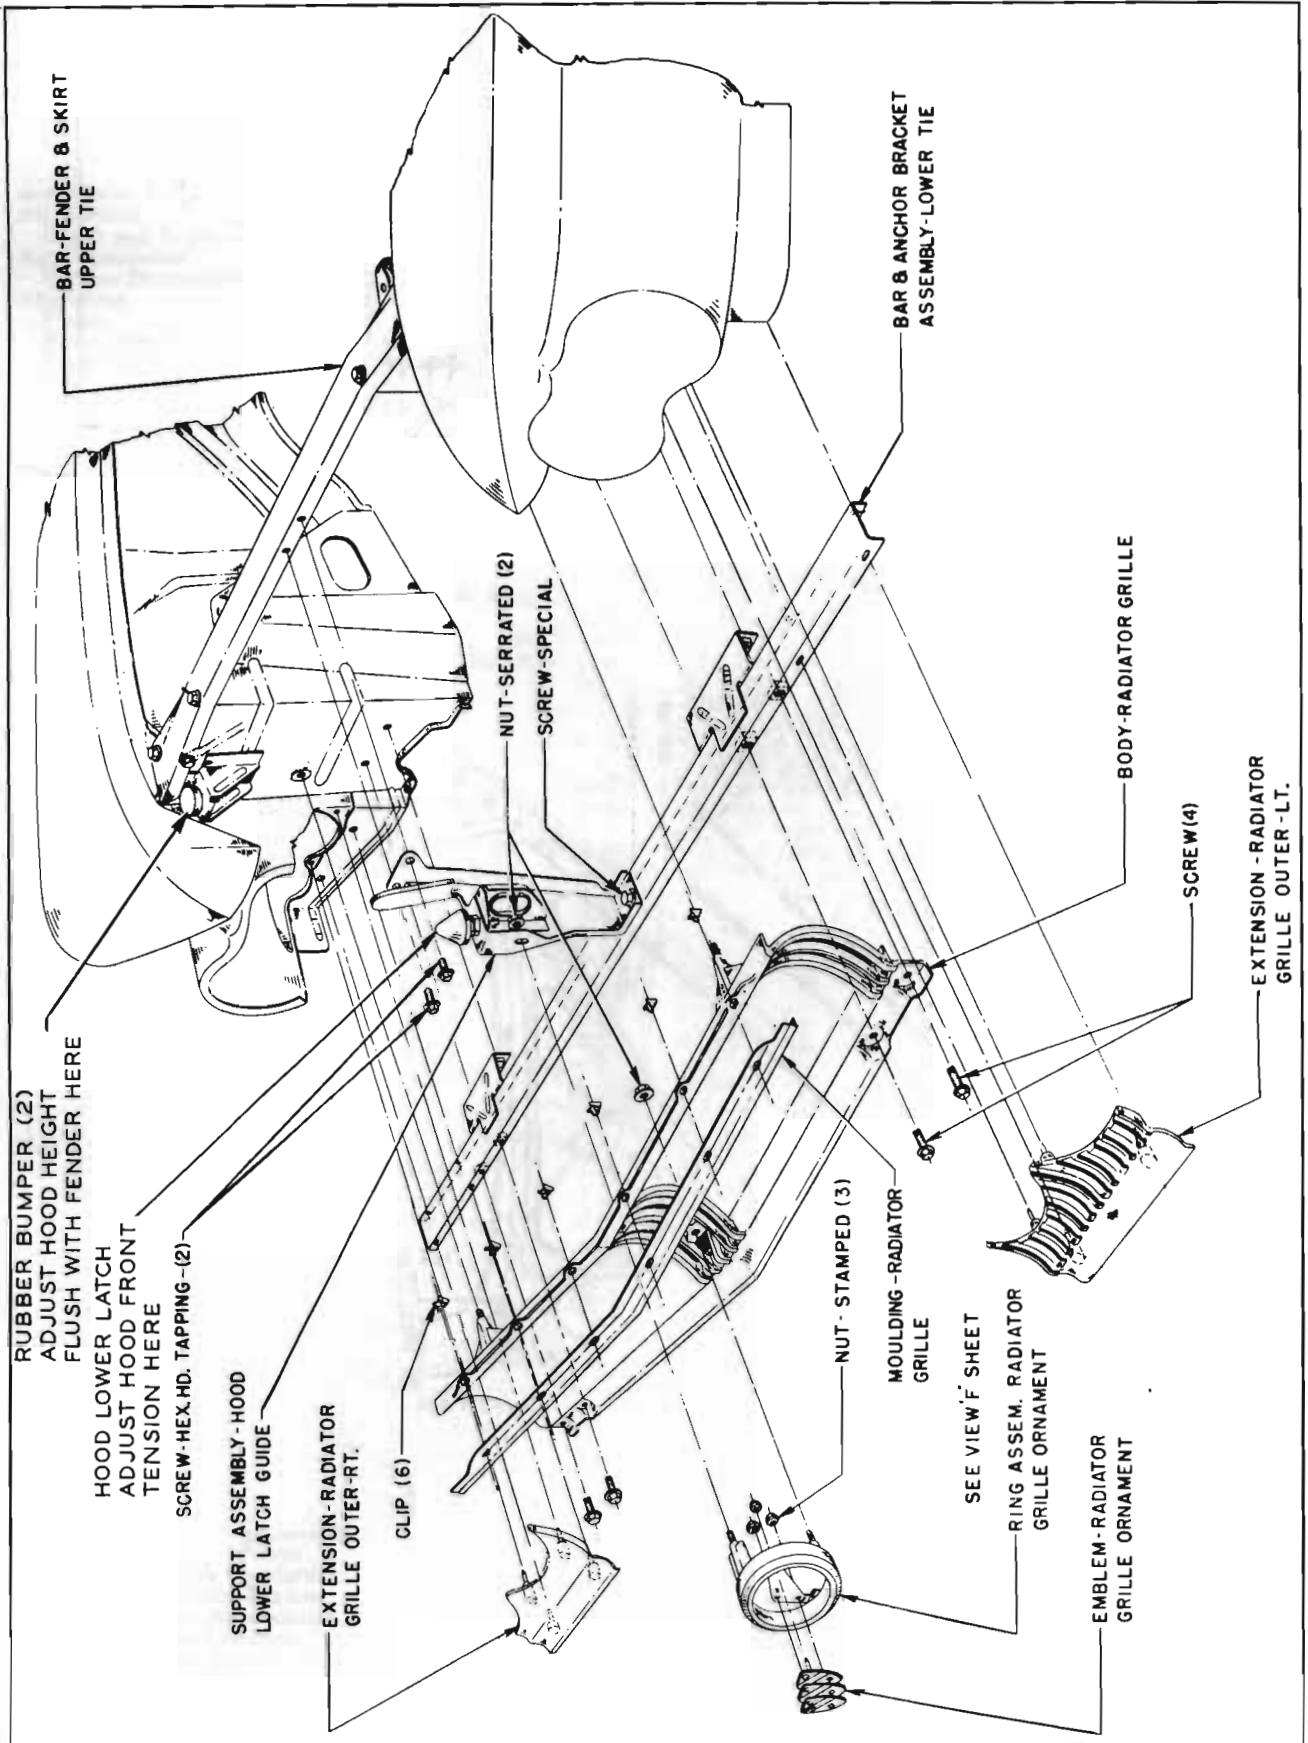

Figure 12-6—Radiator Grille and Lower Hood Latch Attachment
The front of the hood is held down by a dovetail bolt on the lower hood latch (Figure 12-6) which engages a latch mechanism in the front of the hood assembly.
To adjust the latch bolt, loosen the jam nut on the lower end and turn the bolt by means of the screwdriver slot in the upper end. Then retighten the jam nut and close the hood to recheck latch tension. See Figure 12-6.
6. *Latch Alignment.* Raise and lower the front end of the hood slowly several times to check for proper alignment between the latch bolt and guide on the lower panel and the upper latch assembly on the hood. The latch bolt and guide should enter the opening in the upper latch without any side strain or other interference. See figures 12-6 and 12-7.